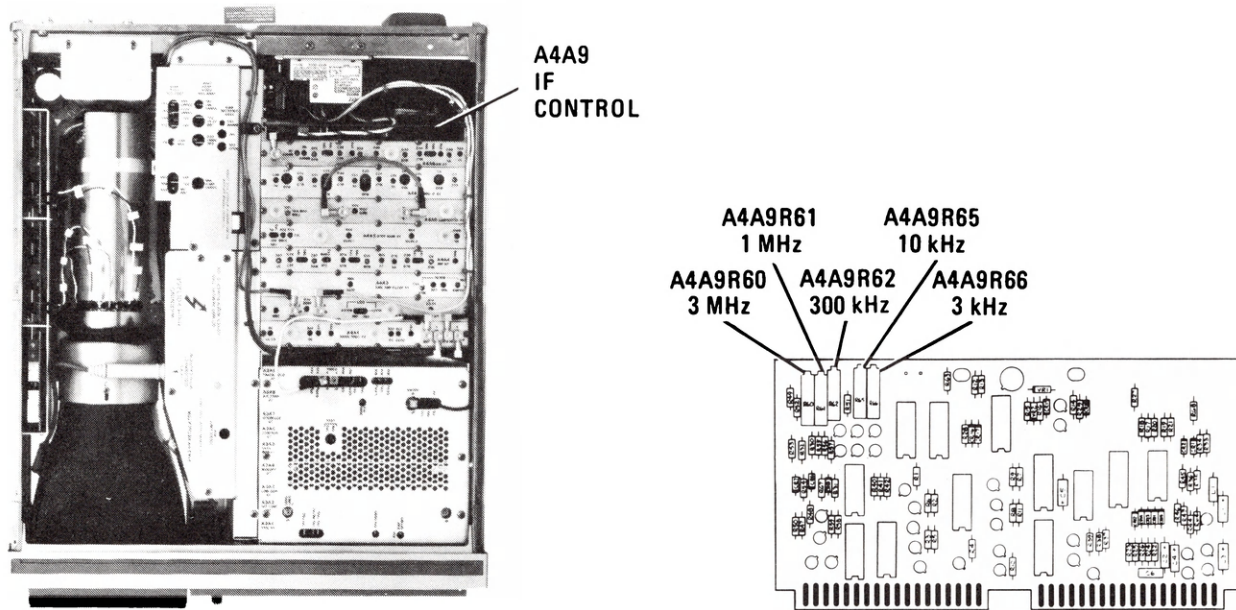

Figure 5-31. Location of 3-dB Bandwidths Adjustments
8. Adjust A4A9R60 3 MHz for MKR Δ indication of 1.5 MHz while maintaining marker at 3-dB point (.707 X) using DATA knob. Refer to Figure 5-31 for location of adjustment.
14. Adjust A4A9R61 1 MHz for MKR Δ indication of 500 kHz while maintaining marker at 3-dB point (.707 X) using DATA knob. Refer to Figure 5-31 for location of adjustment.
20. Adjust A4A9 300 kHz A4A9R62 for MKR Δ indication of 150 kHz while maintaining marker at 3-dB point (.707 X) using DATA knob. Refer to Figure 5-31 for location of adjustment.
26. Adjust A4A9R65 10 kHz for MKR Δ indication of 5.00 kHz while maintaining marker at 3-dB point (.707 X) using DATA knob. Refer to Figure 5-31 for location of adjustment.
32. Adjust A4A9R66 3 kHz for MKR Δ indication of 1.5 kHz while maintaining marker at 3-dB point (.707 X) using DATA knob. Refer to Figure 5-31 for location of adjustments.